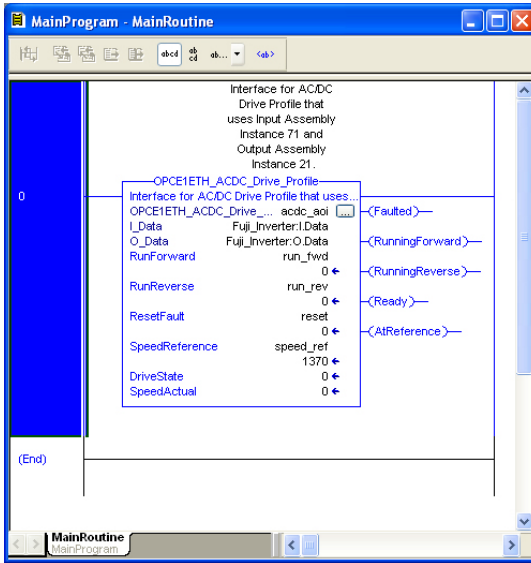

Figure 98: Configure AC/DC Drive Profile AOI
- 10) Edit the add-on instruction according to Figure 98.